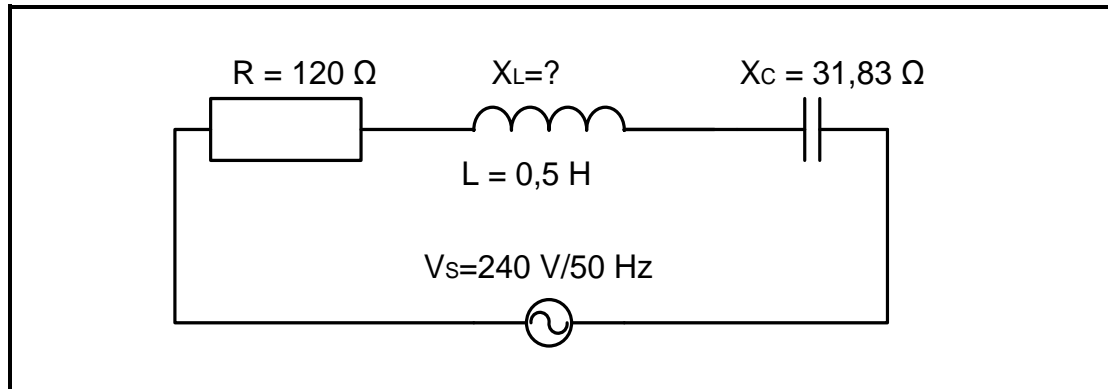

FIGURE 3.1: SERIES RLC CIRCUIT
3.1 Refer to FIGURE 3.1 below and answer the questions that follow.